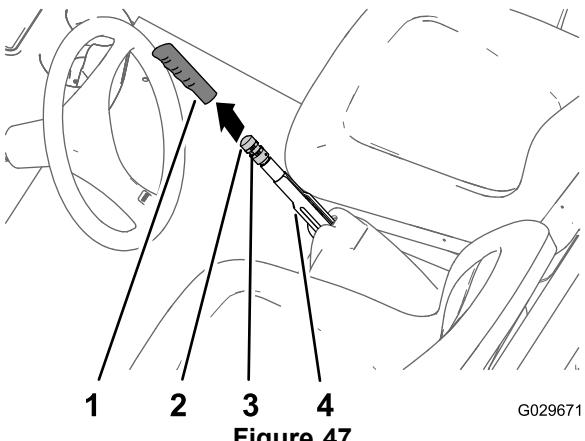

Figure 47
1. Remove the hand grip from the parking-brake lever (Figure 47).
2. Loosen the set screw securing the brake-adjustment knob to the parking-brake lever (Figure 47).
3. Rotate the brake-adjustment knob until a brake-lever force of 133 to 156 N·m (30 to 35 ft-lb) is required to set the parking-brake lever (Figure 47).
4. Tighten the set screw and install the hand grip (Figure 47).
1. Remove the hand grip from the parking brake (Figure 47).
2. Loosen the set screw (Figure 47) securing the brake-adjustment knob to the parking-brake lever, release the parking brake, and loosen the brake-adjustment knob.
5. Rotate the brake-adjustment knob (Figure 47) until a force of 133 to 156 N·m (30 to 35 ft-lb) is required to set the parking-brake lever.
- C. Rotate the brake-adjustment knob (Figure 47) until a force of 133 to 156 N·m (30 to 35 ft-lb) is required to set the parking-brake lever.
- Rotate the brake-adjustment knob (Figure 47) until a force of 133 to 156 N·m (30 to 35 ft-lb) is required to set the parking-brake lever.
- Tighten the set screw and install the hand grip (Figure 47).